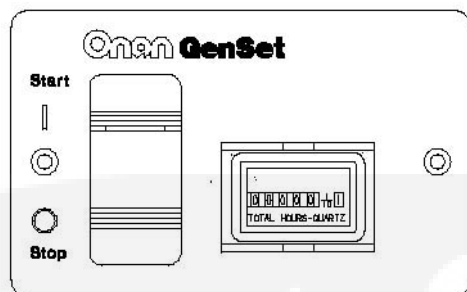

FIGURE 5. REMOTE SWITCH / HOUR METER
- Remote switch with status indicator light and hour meter (Figure 5).